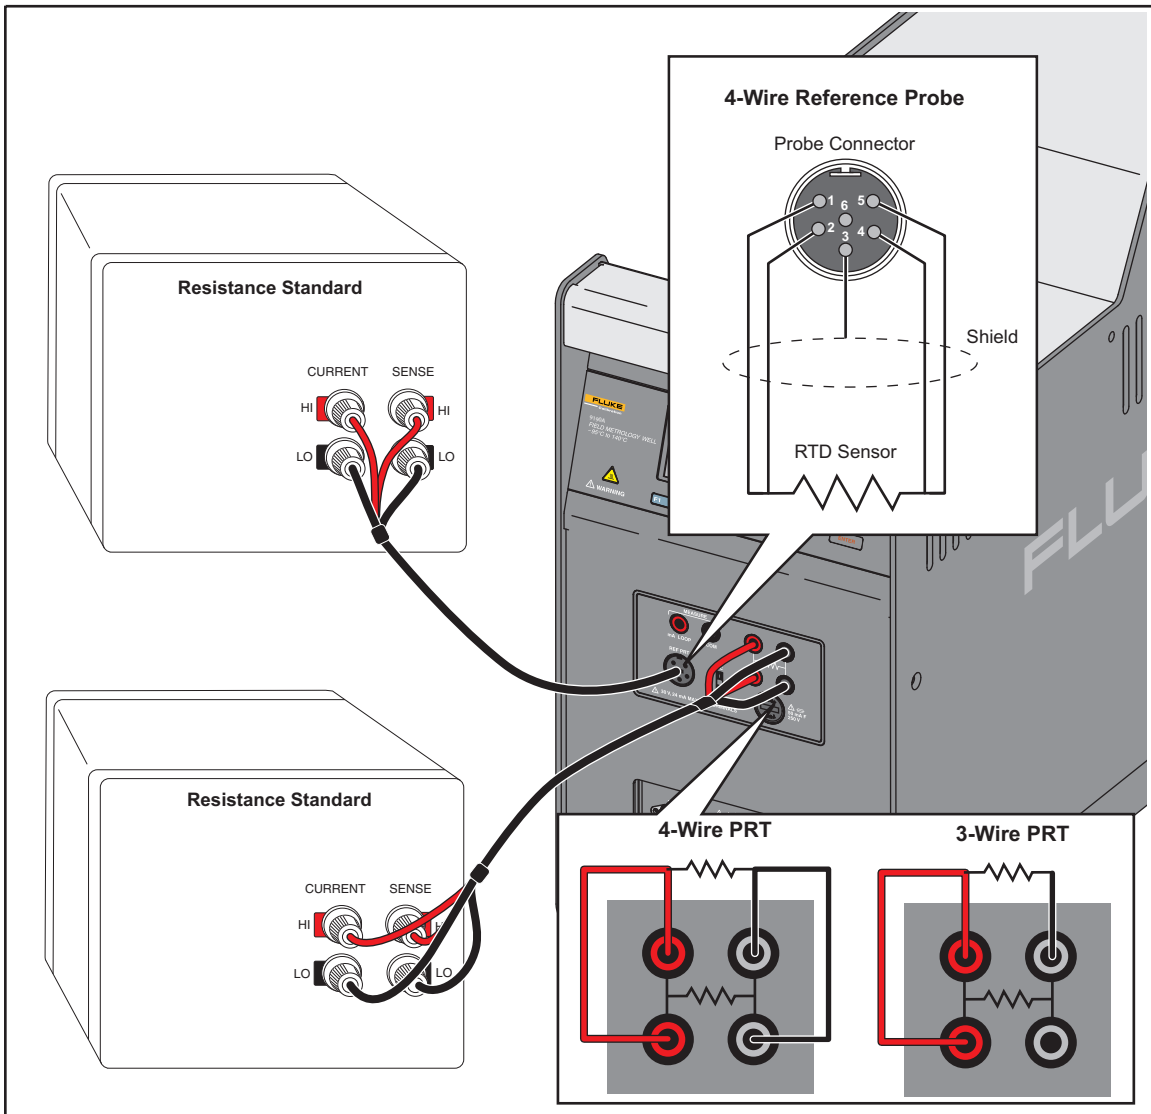

Figure 4-3. 4-Wire Setup
1. Connect the 100 Ω resistor in the 4-wire UUT configuration (see Figure 4-3).
1. Connect the 100 Ω resistor in the 3-wire UUT configuration (see Figure 4-3).